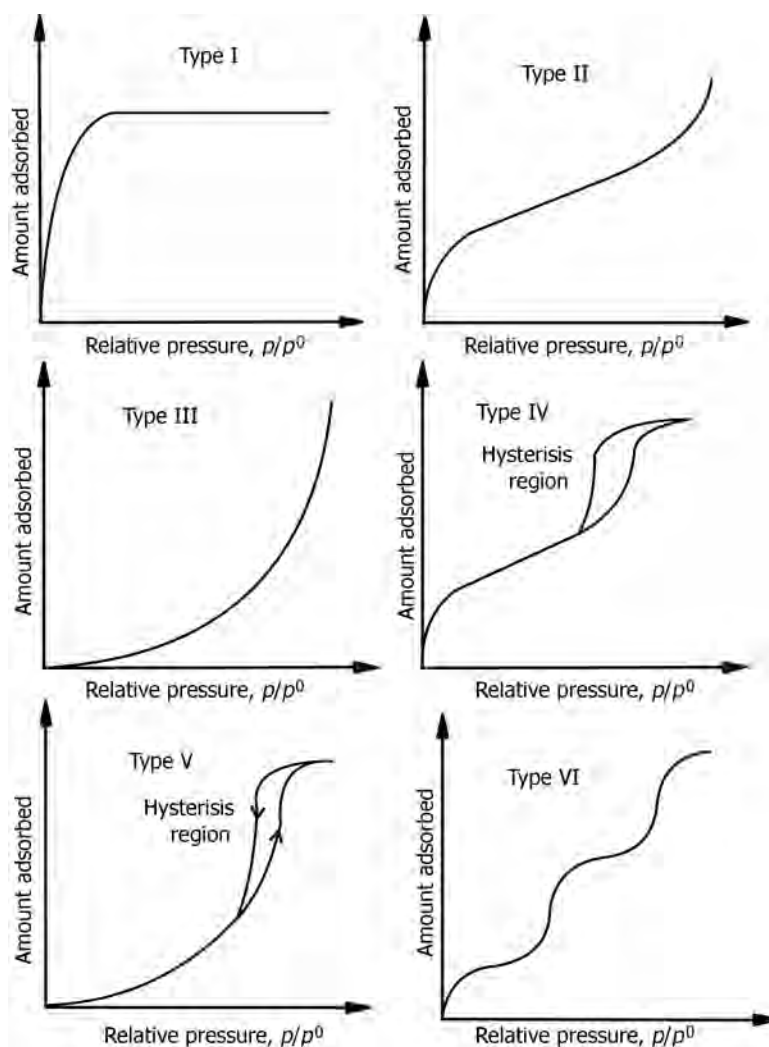

FIGURE 18.41 IUPAC classification of gas adsorption isotherms.
- Gas adsorption isotherms are classified by IUPAC into six types as illustrated in Figure 18.41.